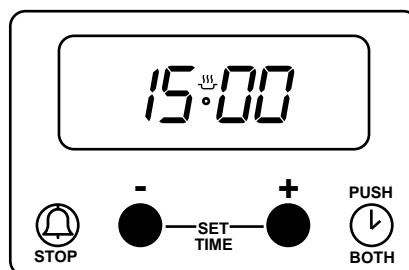

Fig. 13.9
To reset the time of day, press button (1) and (2) together. See Fig. 13.9.